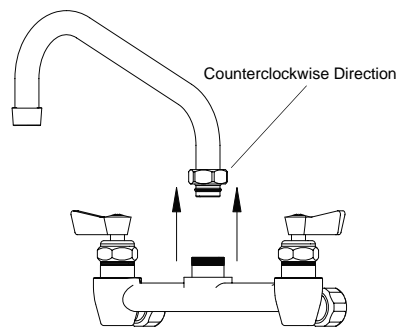

Fig.1 ( Removal of old Swing Spout )
2. Loosen swing or swivel gooseneck spout ( see Fig.1) by turning it counterclockwise. (May require adjustable wrench) Lift swing or swivel gooseneck spout out of control valve body.